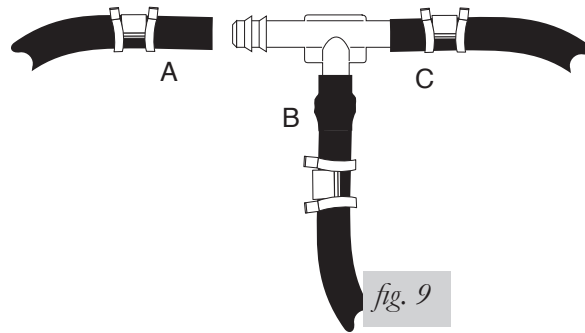

fig. 9
3. Push the air line over one side of the tee until all the barbs are covered. With a pair of pliers, slide the air line clamp forward until it fully covers the barbed section. Repeat entire procedure for other leg of the tee (fig. 9).